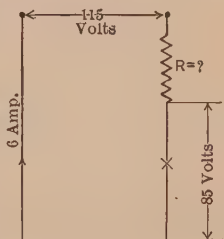

FIG. 52.
**Problem 53.** The arc lamp in Fig. 52 requires 6 amp. at 85 volts across the arc to make it burn with a steady light. What resistance  $R$  must be added to the lamp in order to run it on a 115-volt line?